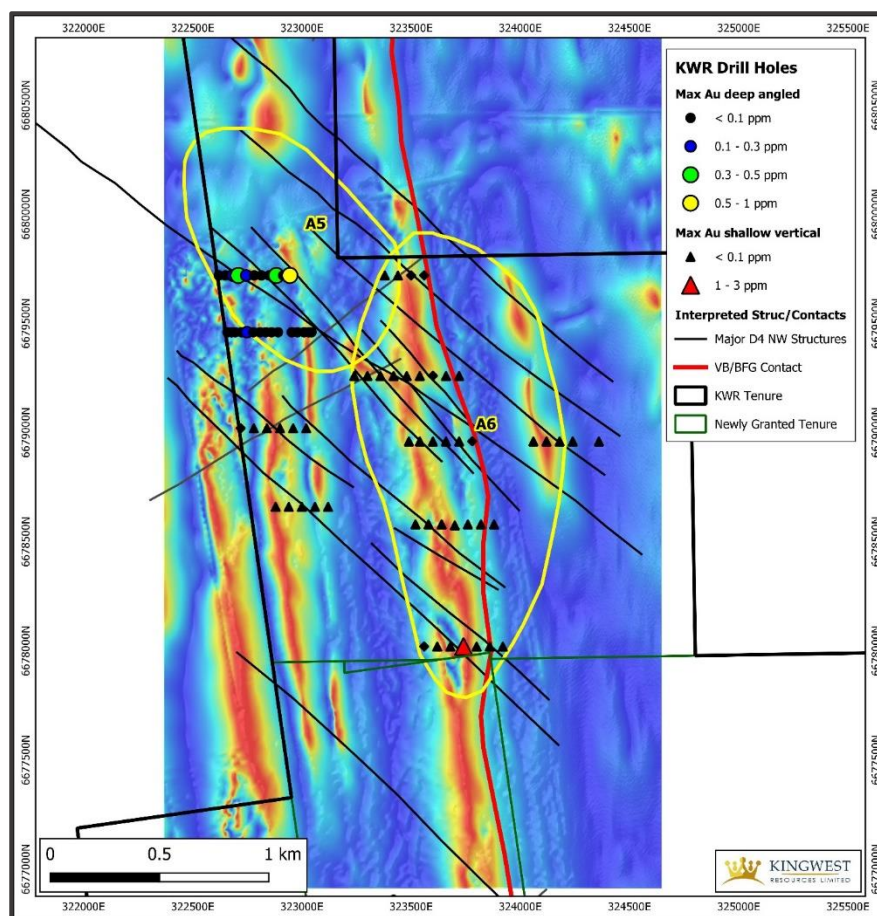

Figure 4: Targets A5 and A6 on aeromagnetic background showing location of anomalous aircore holes
**Target A6** is a single east - west line of seven 60m-spaced shallow vertical aircore holes at the intersection of two NW cross-cutting D4 structures with the gold-prospective VB/BFG contact (Figure 4). Hole KGA0210 returned **4m @ 1.34 g/t Au from 6-10m depth**. Shallow low-level gold anomalies are also present in adjacent holes KGA0208, KGA0209, KGA0212 and KGA0213. This 300m wide zone of gold anomalies and mineralisation is open along strike along for 500m to the north and for 3,000m to the south, where Kingwest has just been granted tenements P29/2531 and P29/2533 and now has surface access. Its potential significance is enhanced by the general depletion of gold in the upper part of the weathering zone, and it **requires deep drilling below and along strike of the mineralisation**.
At **Target A5** an east - west line of deep aircore holes targeted the interpreted termination of the Mt Pleasant gabbro sill by NW-trending D4 cross-faults of the Peninsular Fault Zone (Figure 4). The upper contact of the Mt Pleasant sill hosts gold mineralisation at the Goongarrie mining centre, localised along NW-trending D4 cross-faults. The A5 traverse intersected a complex, quartz-veined sequence of mafic, ultramafic and felsic metasedimentary rocks with low grade gold anomalism throughout. Higher grade intersections in KGA0271 (**4m@ 0.32 g/t Au from 54-58m**), KGA0280 (**4m @ 0.35 g/t Au from 34-38m**) and KGA0282 (**4m @ 0.53 g/t Au from 30-34m**) correspond to NW D4 cross-structures interpreted from the aeromagnetics. **Follow up drilling at depth and along strike is required to better test this target.**